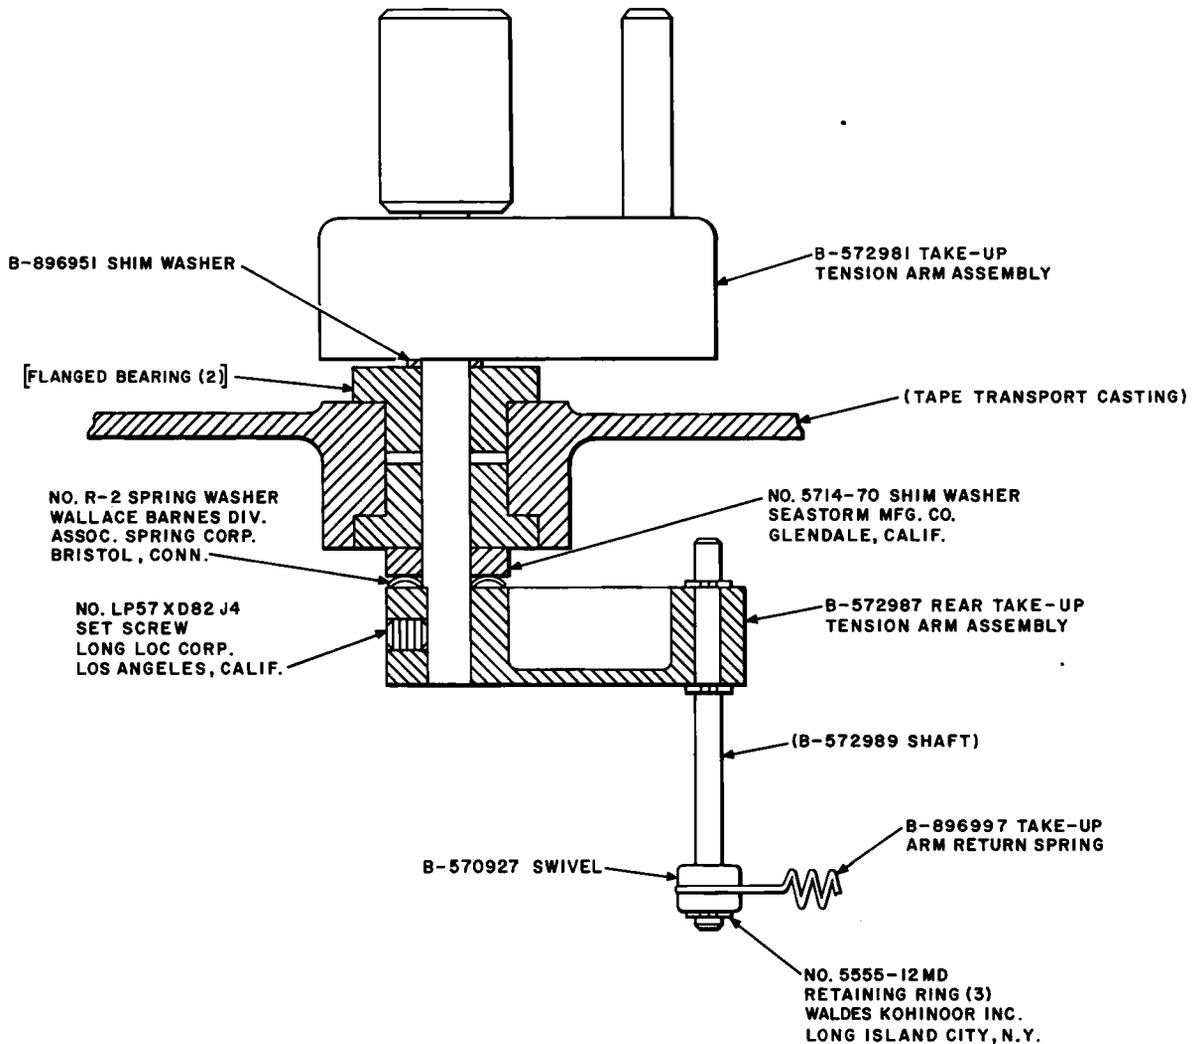

Fig. 15—Sectional View of Take-Up Tension Arm and Associated Parts
(1) Using the 4-inch E screwdriver, remove screw holding locking tab (Fig. 4); swing suppressor network assembly out as shown in Fig. 6. Use the R-2975 snap-ring pliers to remove retaining ring (Fig. 13), and slide take-up arm return spring swivel from shaft. Using the 1/16-inch Allen wrench, loosen setscrew in the end of rear take-up tension arm assembly (Fig. 15); remove tension arm assembly, spring washer, and shim washer from shaft. Remove take-up tension arm assembly (Fig. 8) from front of tape transport. Remove shim washer from shaft of take-up tension arm.
(2) Before installing take-up tension arm assembly, clean shaft with a clean KS-2423 cloth.
**Caution:** When installing take-up tension arm assembly, the spring washer (Fig. 15) should not be completely compressed.
(3) Install shim washer on shaft of take-up tension arm assembly, and insert shaft through the flanged bearings from front of tape transport. Install shim washer, spring washer, and rear tension arm assembly on shaft as shown in Fig. 15. While applying 1/2- to 2-pound preload pressure against the flanged bearings, use the 1/16-inch Allen wrench to tighten setscrew in the end of rear take-up tension arm assembly. Check the shaft for longitudinal play, and observe that the spring washer is not completely compressed. If this has occurred, remove rear tension arm assembly and replace spring washer with a new one; reinstall rear tension arm assembly; and recheck shaft for play. Install take-up arm return spring swivel on the shaft;